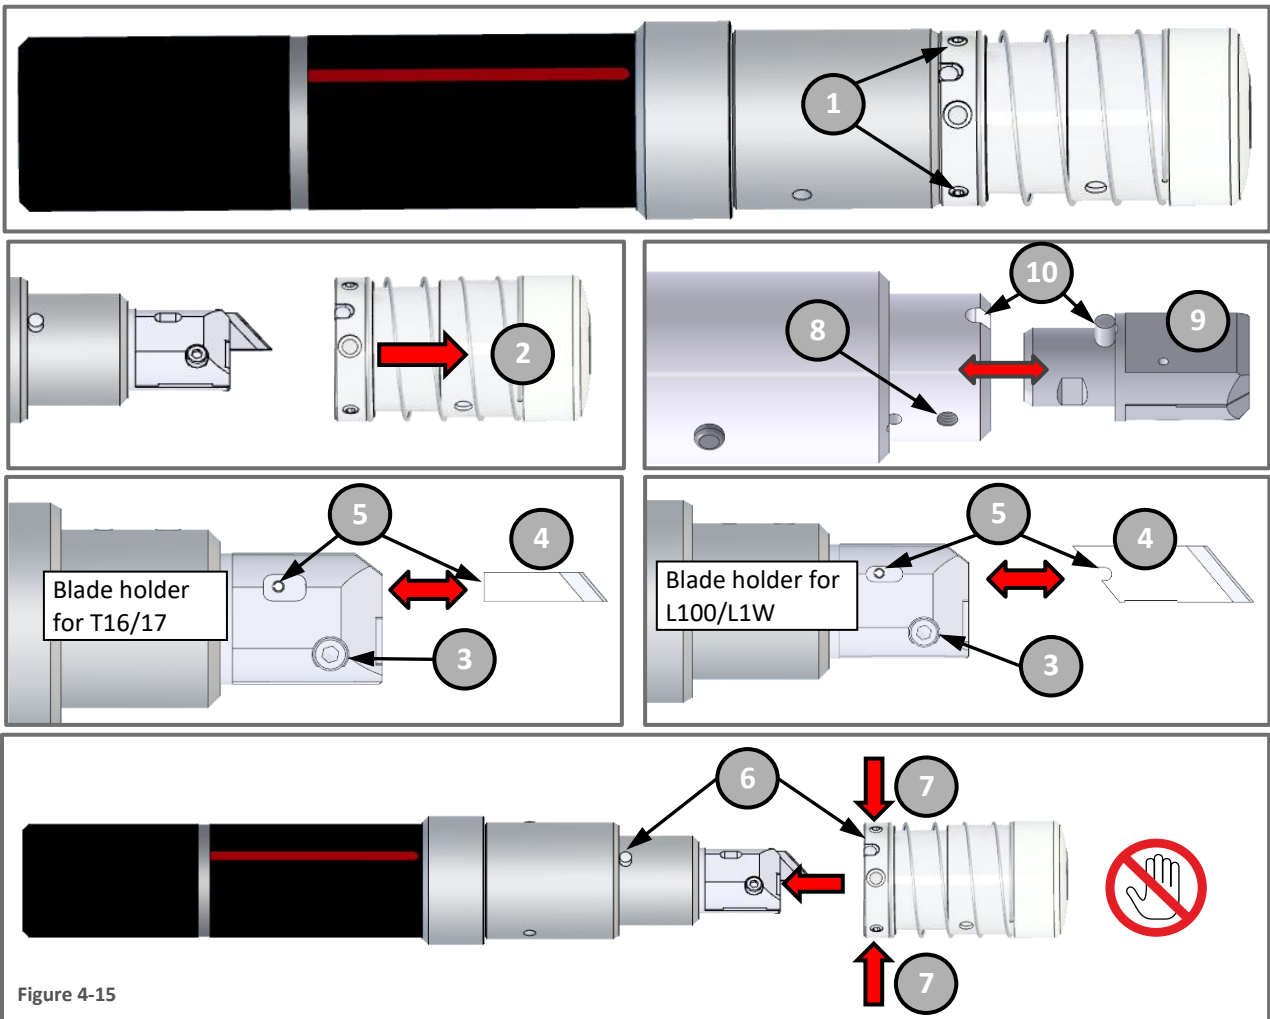

Figure 4-15
- a) Loosen the locking set screws (1) and remove the movable blade guard (2) Figure 4-15.